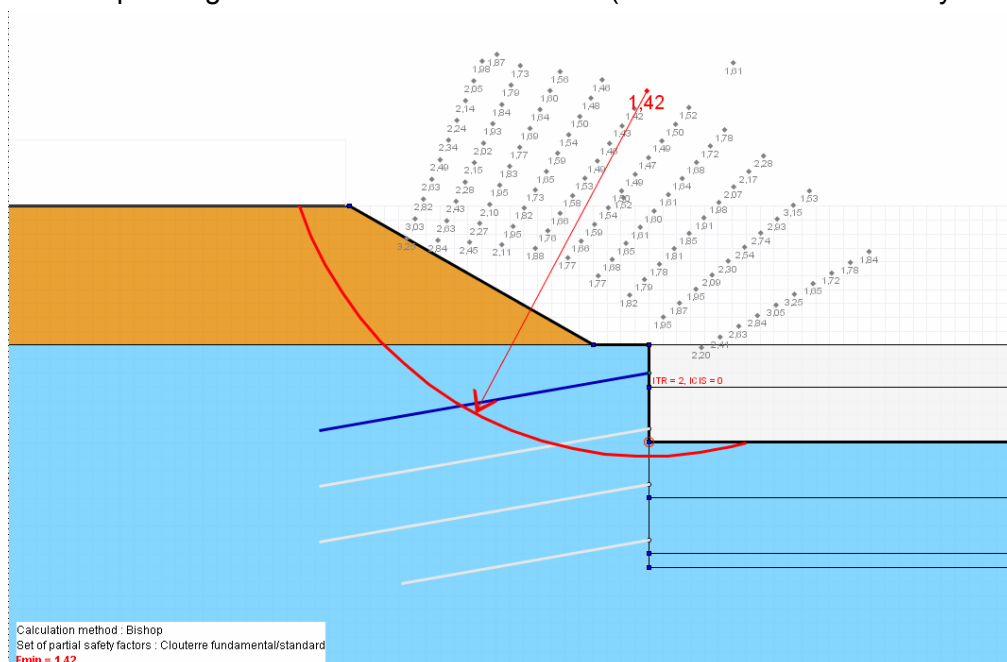

Figure 23: default output for situation 1 of stage 1
- To calculate the situation, choose menu [Calculation and results] then option [Calculate the selected set of conditions], or click on the toolbar button . The calculation is performed and the result is displayed (Figure 23): the red circle(s) are those corresponding to the critical failure surfaces (smallest calculated safety factor).